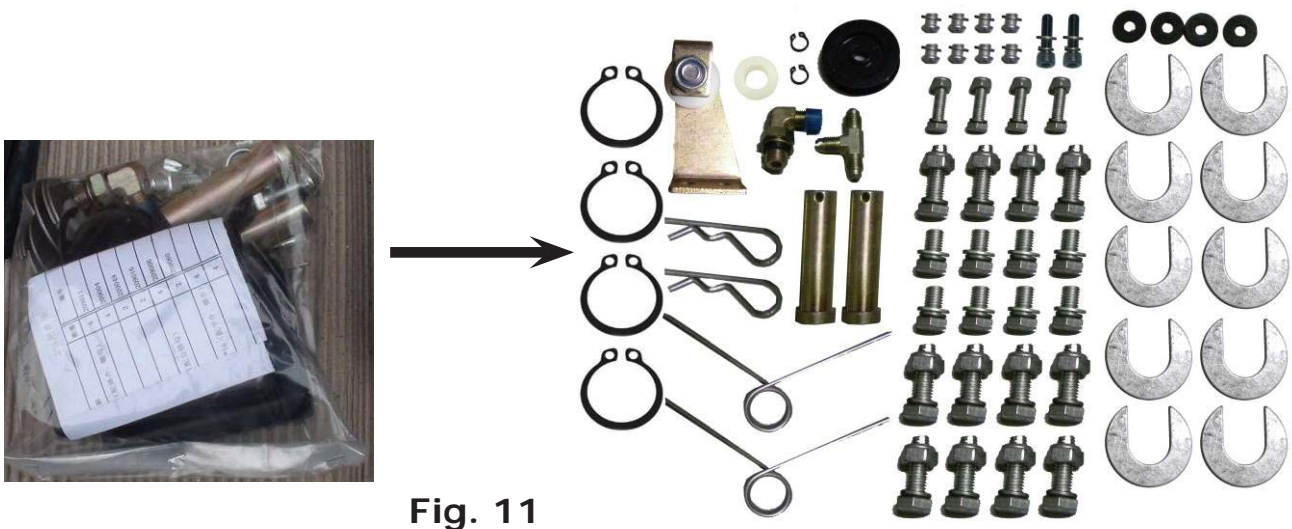

Fig. 11
6. Open the parts bag and check the parts according to parts bag list (See Fig. 11).